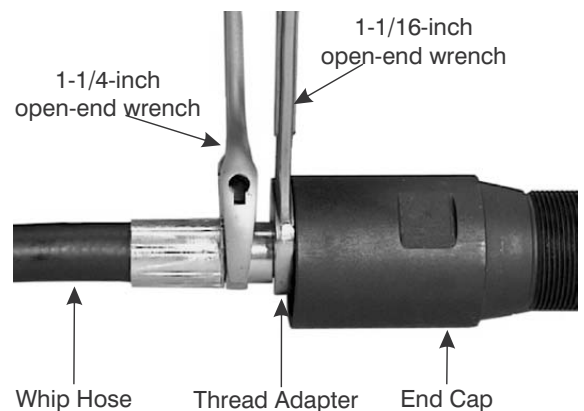

Figure 8-21. Loosen Hex Fitting and Remove Whip Hose
4. While holding the Thread Adapter in position with the 1-1/16-inch open-end wrench, fit a 1-1/4-inch open-end wrench across the flats of the Whip Hose Hex Fitting as shown in Figure 8-21.